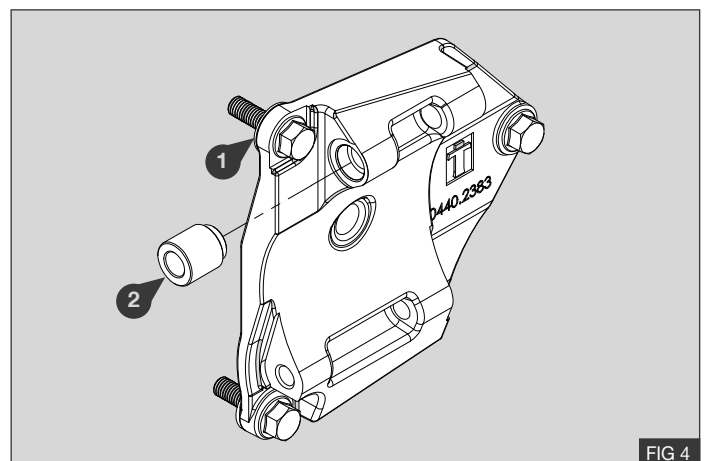

FIG 4
3. Install the spacer **(2)** as shown in - Fig 4